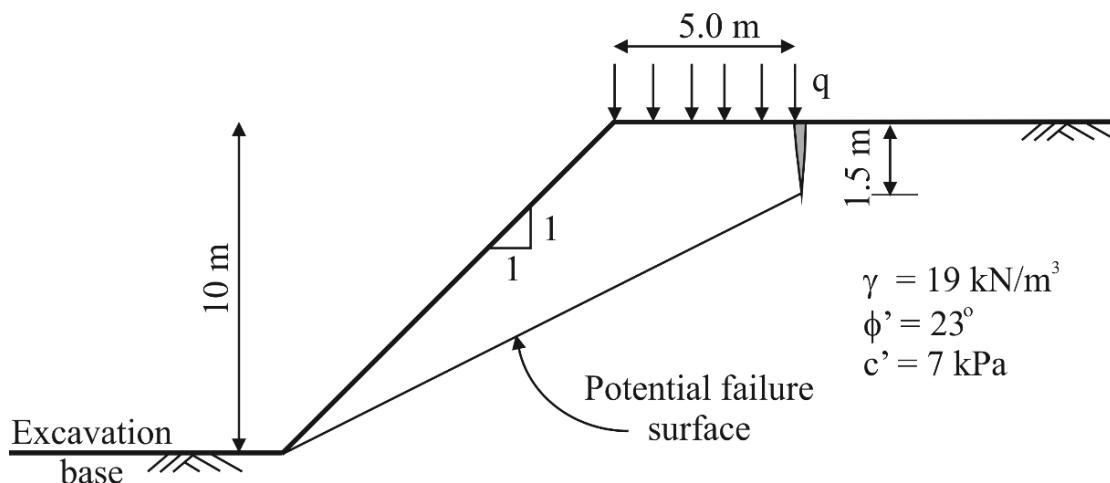

Figure Q4
4. The design of earthworks for a new development requires large temporary excavations, 10 m deep and with 1:1 (vertical to horizontal) slope inclinations in a homogeneous stiff clay, as shown in Figure Q4. To save on transportation costs, the excavated soil will be temporarily deposited as surcharge, q , on top of the slope, so that it is readily available for subsequent backfilling. As the site is busy, the piling up of the excavated material is limited to a 5.0 m wide area behind the slope, as depicted in Figure Q4. As a consequence, a tension crack may develop along the side of the surcharge area to about 1.5 m depth.
- a.) Assuming the worst case scenario of the tension crack filling up with water and the failure surface of the slope being as depicted in Figure Q4, identify all external and internal forces acting in the slope and mark their positions and directions in a sketch of the slope similar to that in Figure Q4. The Mohr-Coulomb failure criterion applies along the failure surface. (5 marks)
- b.) Determine the magnitudes of all forces for the soil properties given in Figure Q4. (10 marks)